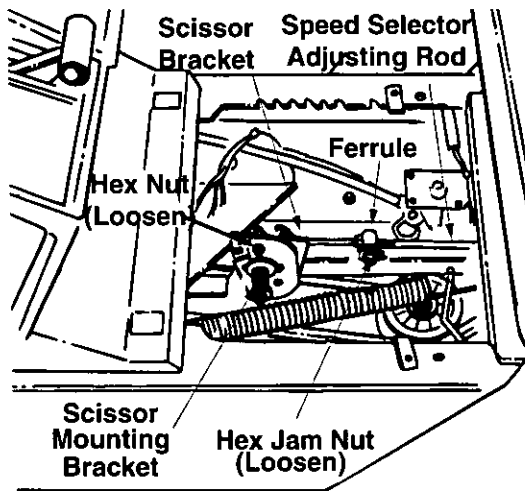

Figure 16
3. Loosen the hex jam nut on the speed selector adjusting rod. See Figure 16.
4. Loosen the hex nut on the scissor mounting bracket. See Figure 16.